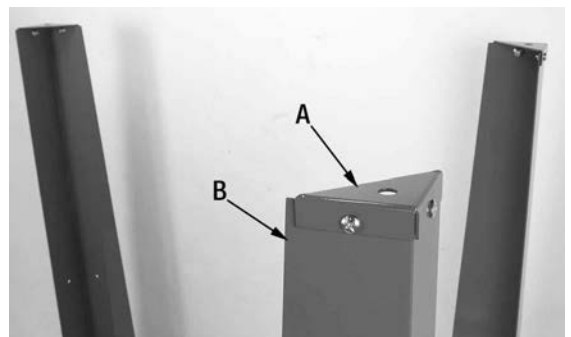

FIGURE 3
- 2) Install the 4 feet (A) Fig.3 to each leg (B) using two pan head screws and hex. nuts for each foot.